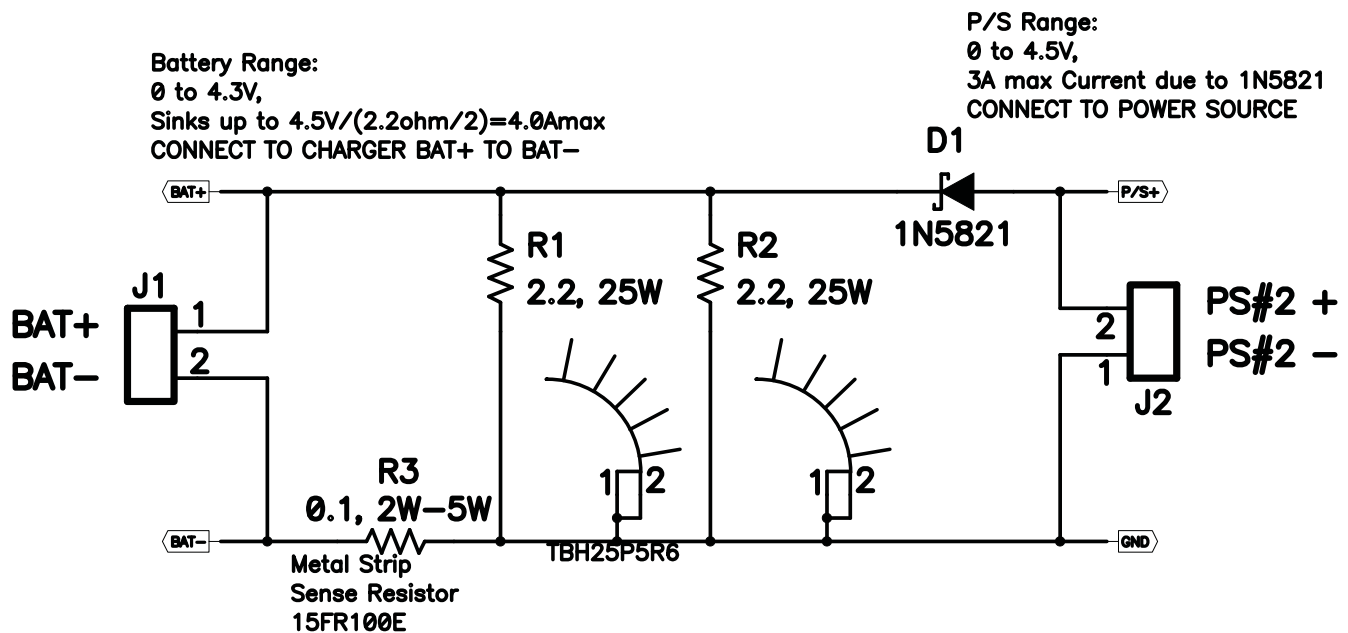

Figure 2. BAT_Load (PR1010) Schematic
2. If not using a battery as the load, then power supply #2 (PS #2) capable of supplying up to 5 V at 5 A is required to power the circuit shown in Figure 2.
Testing with an actual battery is the best way to verify operation in the system. If a battery is not available, then a battery or circuit similar to the one shown in Figure 2 can simulate a battery when connected to a power supply.